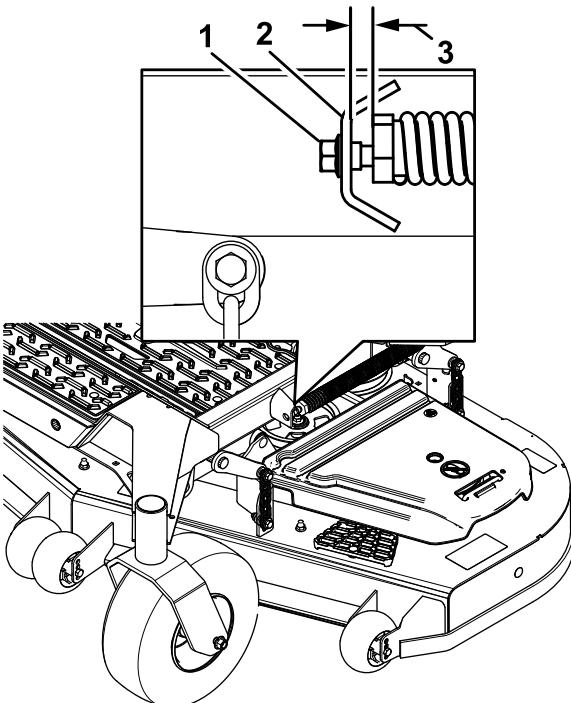

Figure 102
10. Slowly loosen the adjusting screw on the lift-assist spring until you can remove the screw (Figure 102).